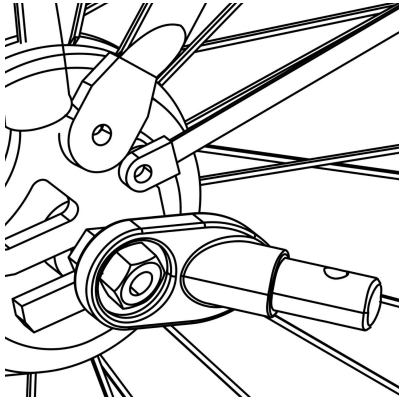

Figure 10
2. Nutted Axle: Unscrew the nut with washer from the left side of bike's rear axle. Install the hitch onto the axle and screw the nut back on with the washer(Figure 10).